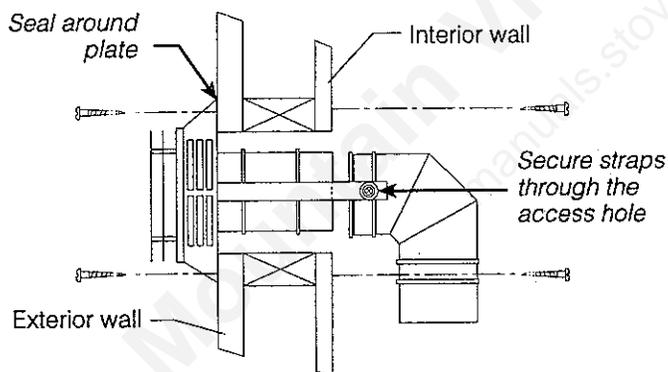

FIGURE 13. Attach the adjustable slip pipe.
4. Insert the adjustable slip pipe that will connect the wall terminus and the fireplace elbow. Drill pilot holes in the protruding straps and secure the straps to the horizontal pipe with sheet metal screws. Trim excess from the straps. Figure 13.